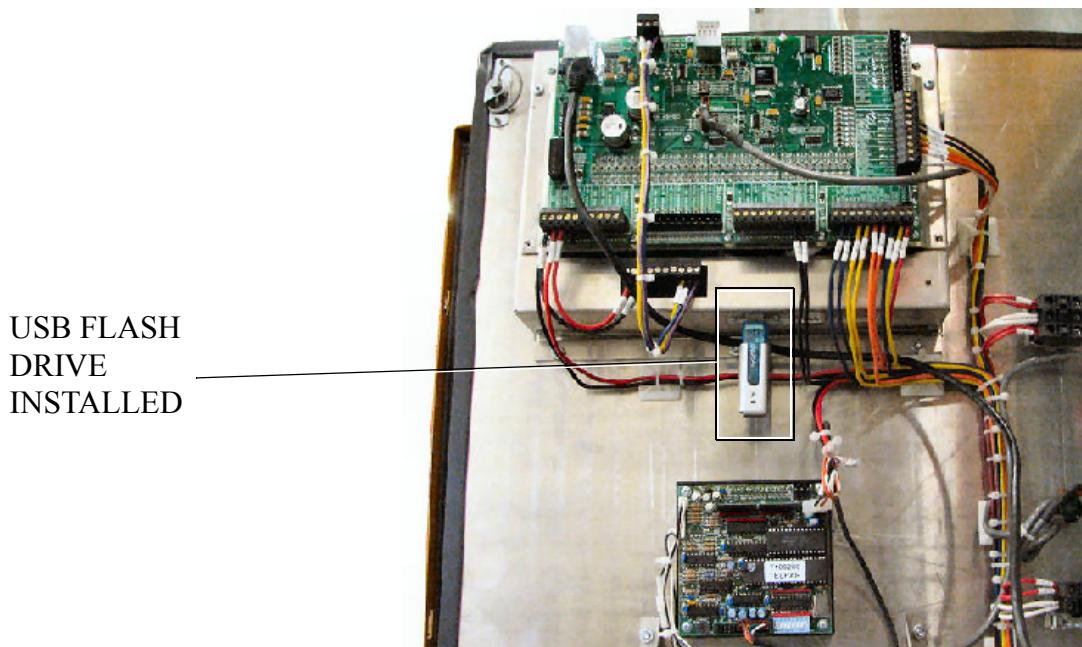

Fig. 1-C USB Flash Drive Inserted In The USB Port
4. Turn on the dryer control power (see figure 1-A). The dryer control computer will start.